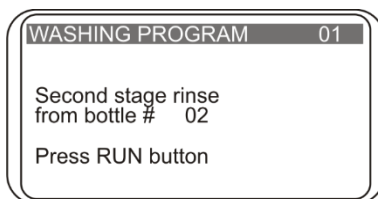

Figure 9. Choosing the bottle number for rinse on the second channel
- 5.15. If operation requires washing from two channels (parameter "On two channels" set to YES), confirmation of the correct bottle number for second wash appears on the display before starting the program (fig. 9). Select necessary bottle number using **+** and **-** keys and press the **Run/Stop** key.